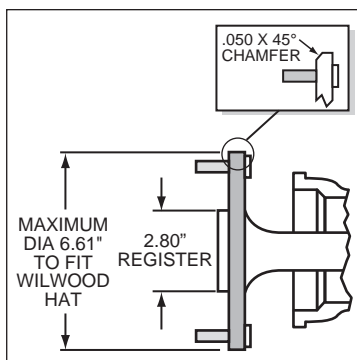

Figure 5. Axle Flange Maximum Dimension
- Axle center register diameter is 2.80", Figure 5. This kit uses Wilwood's removable center register adapters. Rotors can either be centered on the axle register, i.e. *register-centric* or centered on the wheel studs, i.e. *stud-centric*. Due to variations in wheel stud final diameters, *register-centric* centering can be a more accurate method of centering the rotor to the axle. Wilwood offers various diameter adapters for purchase in addition to the ones supplied in this kit, see Table 1.
- Maximum axle flange diameter must be no larger than 6.61" w/.050" x 45° chamfer, Figure 5.